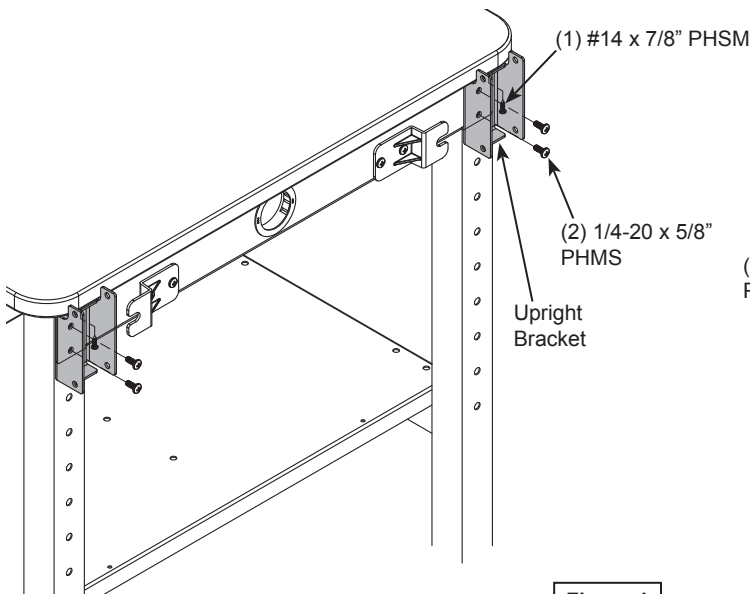
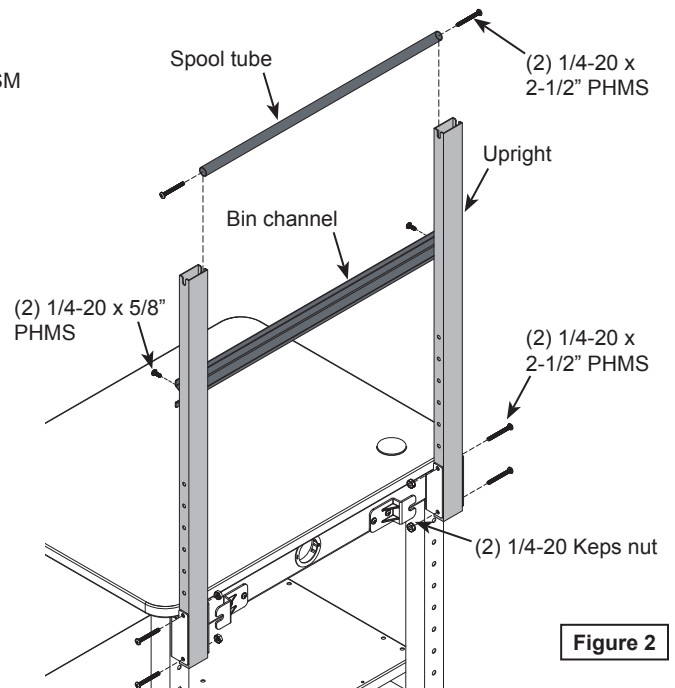

Figure 1
Figure 2
1. Install each upright bracket to the back of the unit as shown with (2) 1/4-20 x 5/8" PHM screws. **Figure 1.** If existing screws have already been installed into the legs here-please remove.
2. Install (1) #14 x 7/8" PHSM screw through each bracket into the worksurface.
4. Install each upright at the desired height with (2) 1/4-20 x 2-1/2" PHMS and (2) 1/4-20 Keps nuts. **Figure 2.**
7. Attach the bin channel at the desired height with (2) 1/4-5/8" PHM screws.